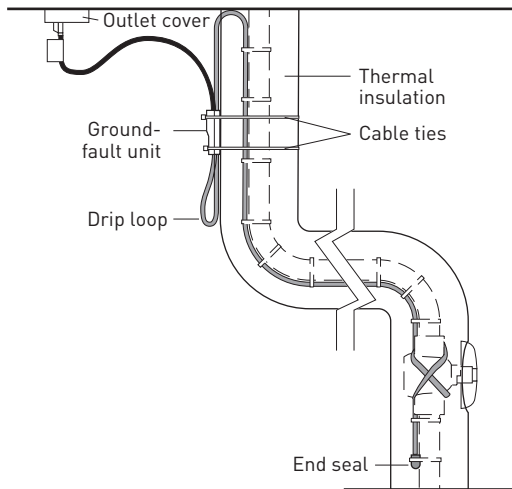
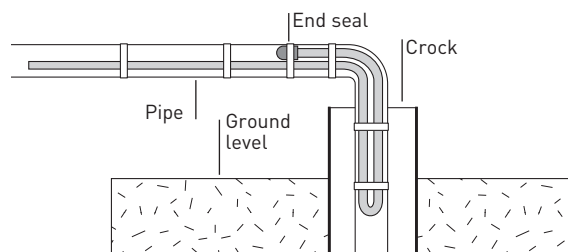

Figure 1. Typical manufactured housing installment
Figure 5. Excess cable doubled back.
Begin the installation at the electrical outlet. Leave at least 1 foot (30 cm) of extra cable so the ground-fault unit can be secured to the outside of the thermal insulation, as shown in Figures 1 and 2. This will relieve any strain on the cable or plug. However, be careful not to leave cable hanging in a loose loop where it could be accidentally snagged and pulled out.
- If you have excess cable at the end of your pipe, double it back along the pipe where the insulation will completely cover it as shown in Figure 5. Using 9610 application tape or equivalent, tape the end seal to the pipe as shown in Figures 1, 2, and 5.
Important: In a crock or standpipe, run the Frostex Plus cable down and back up the pipe (as shown in Figure 5), so that the **end seal is well above the ground level and will not be sitting in water.**